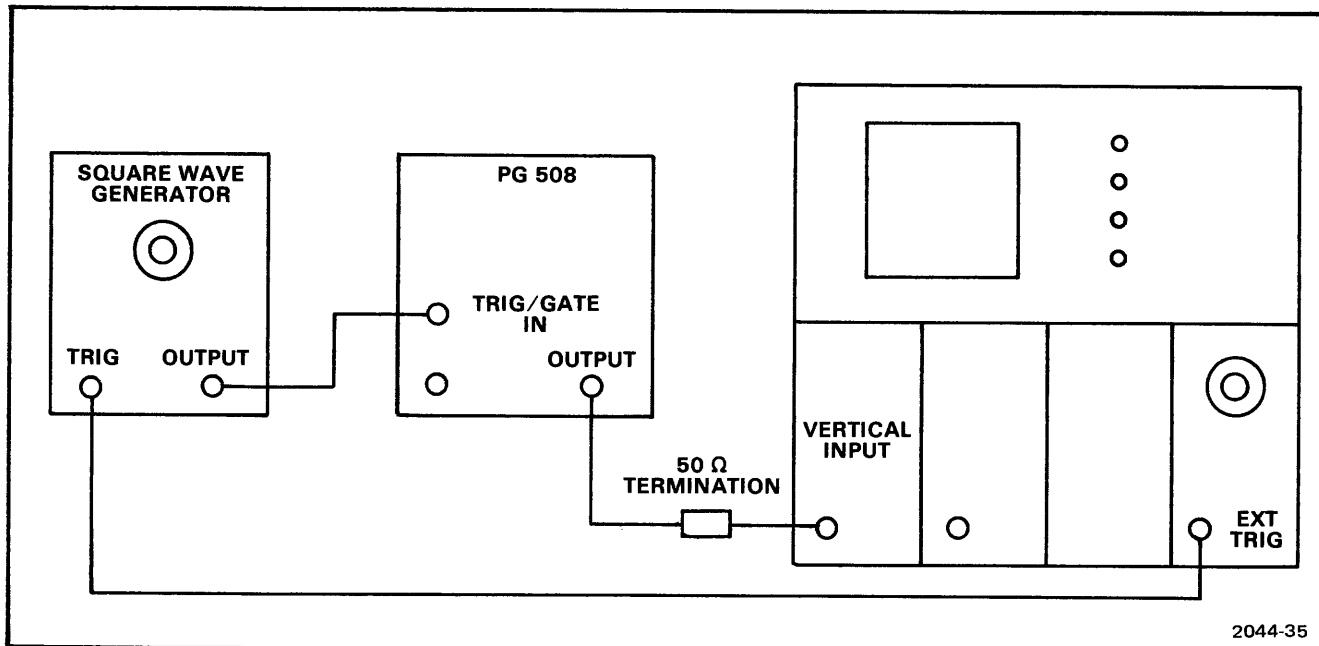

Fig. 4-3. 1st period adjustment instrument connections.
- b. Connect a coaxial cable from the OUTPUT of the PG 508 through a 50 Ω termination to the vertical input of the oscilloscope. See Fig. 4-3.
- c. Trigger the oscilloscope externally from the square wave generator. (See Fig. 4-3).
- a. Connect the instruments as shown in Fig. 4-3.